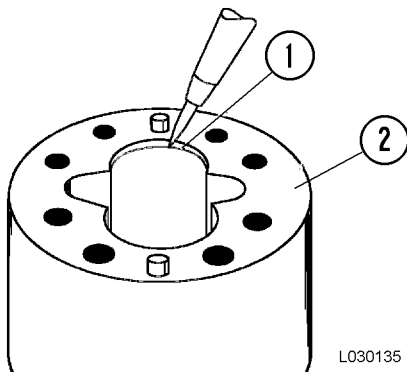

FIGURE 3-9. GEAR BORE INSPECTION
1. Examine the gear bores in both gear plates; reference Figure 3-9. During the initial break-in, the gears cut into the aluminum gear plates. The nominal depth of this cut is 0.203 mm (0.008 in.) and should not exceed 0.381 mm (0.015 in.). As the gear teeth cut into the gear plates, metal is rolled against the pressure plates. Use a knife or sharp pointed scraper to remove the metal that was rolled against the pressure plates. Remove all metal chips that were broken loose.